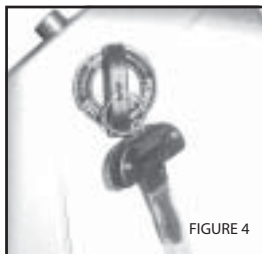

FIGURE 4
3. Turn the Power Mode Switch to the "ON" position (figure 4).